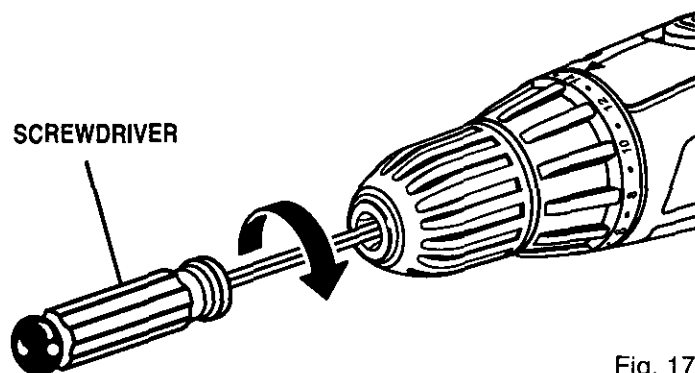

Fig. 17
- Open chuck jaws and remove hex key wrench. Remove the chuck screw by turning it in a clockwise direction. See Figure 17.